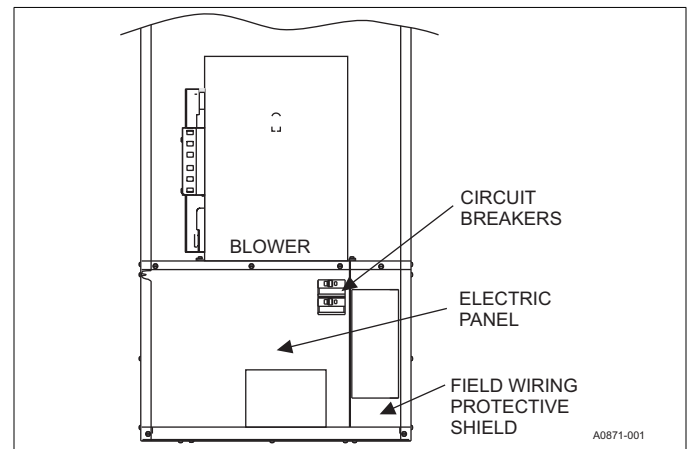

FIGURE 10: Field Wiring Shield
2. Secure the front of the furnace with two screws at the provided mounting holes. See Figure 10.